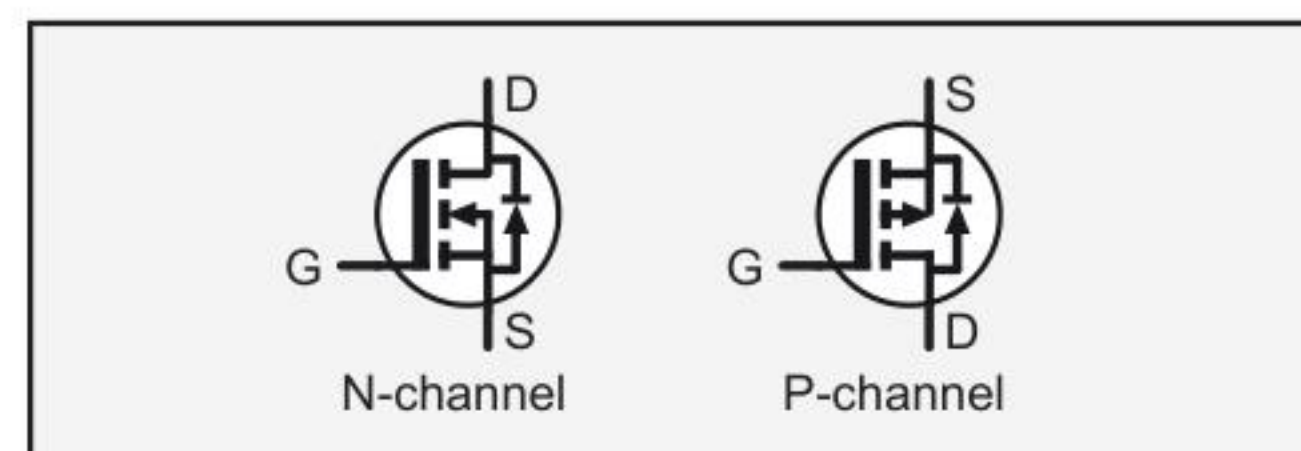

Fig.8. Power MOSFET symbols showing parasitic diode.
There are various forms of the schematic symbol used for MOSFETs – a version commonly used for power switching devices is shown in Fig.8. Strictly speaking, the MOSFET actually has four terminals – the fourth is the substrate or bulk (B) semiconductor in which the device is formed. In many cases (particularly discrete devices) the bulk and source are shorted within the fabricated structure of the device, so there are only three external connections. The bulk connection is represented by the line with the arrow in the centre of device, which links to the source. Fig.8 shows a power MOSFET symbol that includes the ‘body’ diode (on the right) which is an intrinsic part of the MOSFET’s structure. This diode